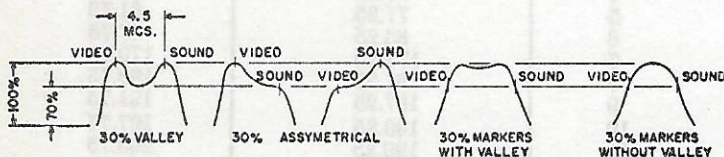
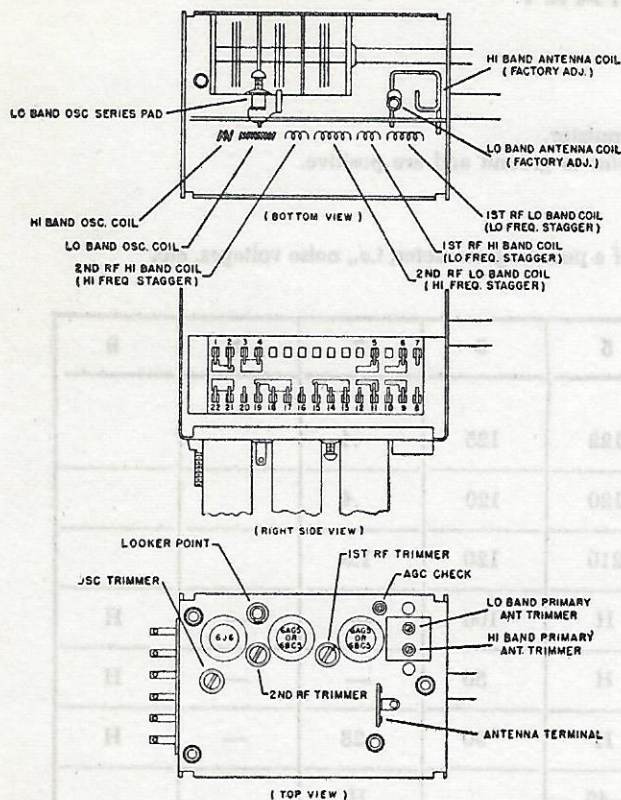

Fig. 17. Acceptable r-f pass bands
Fig. 19. Location of tuner alignment adjustments
- (1) Turn range switch of the tuner to the Hi band (counter-clockwise rotation of switch knob), rotate variable condenser to minimum capacity (clockwise rotation of tuning shaft), and adjust sweep generator for channel 13.
- (2) With the scope switch in IF position, adjust scope gain, r-f sweep input level, inject required i-f picture marker (i.e., 26.25 Mc), and an r-f overtravel marker of 212.75 Mc.
- (3) Adjust OSC. TRIMMER (Fig. 19) so that picture i-f marker and 212.75 Mc overtravel markers coincide on the i-f response characteristic on the scope.
- (4) Remove the two self tapping screws used for fastening the tuner shield and slide shield off until a point is reached where coils on switch are exposed and accessible.
- (5) Rotate variable condenser to maximum capacity (counter-clockwise) and adjust sweep generator for channel 7.
- (6) Inject r-f overtravel marker of 172.75 Mc.
- (7) With a bakelite alignment tool, adjust the spacing of the turns of the HI BAND OSC. COIL (Fig. 19) so that Pix i-f marker and 172.75 Mc markers coincide. Spreading the coils apart will raise the oscillator frequency; squeezing the coils together will lower the frequency. After adjustment, slide shield back into its original position and note any frequency shift of markers. Slide shield off and compensate for the frequency shift by a slight readjustment of the Hi band oscillator coil. Slide shield back into original position and note if markers coincide. If they do not, repeat this process until proper adjustment is made and markers coincide.
- (8) Repeat steps 1 to 7 inclusive until correct oscillator coverage of entire Hi band is obtained.
- (9) Remove tuner shield completely, turn tuner range switch to Lo band position (clockwise), rotate variable condenser to minimum capacity and adjust sweep generator for channel 6.
- (10) Inject Pix i-f marker and r-f overtravel marker of 84.75 Mc.
- (11) With a bakelite alignment tool, adjust LOW BAND OSC. COIL (Fig. 19) so that the Pix i-f marker and 84.75 Mc marker coincide.
(12) Rotate variable condenser to maximum capacity (counter-clockwise) and adjust sweep generator for channel 2.
(13) Inject r-f overtravel marker of 54.25 Mc.
(14) Adjust LOW BAND OSC. SERIES PAD (See Fig. 19) until Pix i-f marker and 54.25 Mc marker coincide.
(15) Repeat steps (9) to (14) inclusive for satisfactory coverage of entire Lo band.
(16) Repeat step (1).
(17) Replace tuner shield, set scope switch to i-f position, and adjust scope gain.
(18) Inject a Pix i-f marker and a channel 13 Pix r-f marker (211.25 Mc).
(19) Rotate tuning shaft until Pix i-f marker and 211.25 Mc marker coincide on the i-f response. Do not disturb this setting of the variable condenser for the remainder of alignment of channel 13 r-f pass band.
(20) Set scope switch to RF, adjust scope gain and turn 1ST RF TRIMMER (Fig. 19) for maximum amplitude of first r-f amplifier response in the region of the r-f Pix marker.
(21) Inject Channel 13 sound r-f marker (215.75 Mc) and adjust 2ND RF TRIMMER (Fig. 19) for maximum amplitude of second r-f amplifier response in the vicinity of the r-f sound marker.
(22) Repeat steps (20) and (21) until desired pass band is obtained. See Fig. 17 for acceptable r-f band pass response shapes.
(23) Remove tuner shield as in step (4) and repeat step (5).
(24) Set scope switch to IF position, adjust scope gain, and inject required Pix i-f marker and channel 7 Pix r-f marker of 175.25 Mc.
(25) Rotate tuning shaft until Pix i-f marker and channel 7 Pix r-f markers coincide in i-f response. Do not disturb this variable setting for remainder of alignment of channel 7 r-f pass band.
(26) Set scope switch to RF position and with a bakelite alignment tool, adjust 1ST RF HI BAND COIL (Fig. 19) for maximum amplitude of 1st r-f amplifier response in region of the Pix r-f marker.
(27) Inject a channel 7 r-f sound marker of 179.75 Mc and adjust 2ND RF HI BAND COIL (Fig. 19) for maximum amplitude of 2nd r-f amplifier response in the region of the sound r-f marker.
(28) Repeat steps (26) and (27) until desired pass band is obtained, consistent with shapes shown in Fig. 17.
(29) Repeat steps (16) to (28) inclusive for satisfactory coverage of entire Hi band r-f response.
(30) Repeat step (9), set scope switch to IF position, adjust scope gain, and inject a channel 6 Pix r-f marker (83.25 Mc).